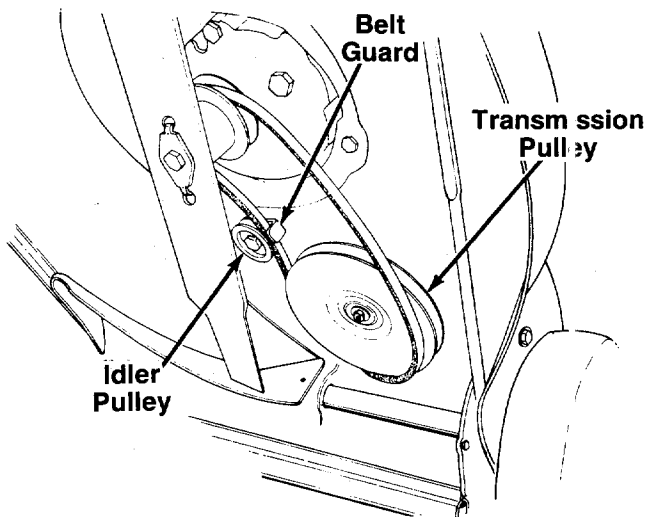

FIGURE 29.
5. Roll the belt off the transmission pulley. Remove the belt from between the idler pulley and belt guard. See figure 29.